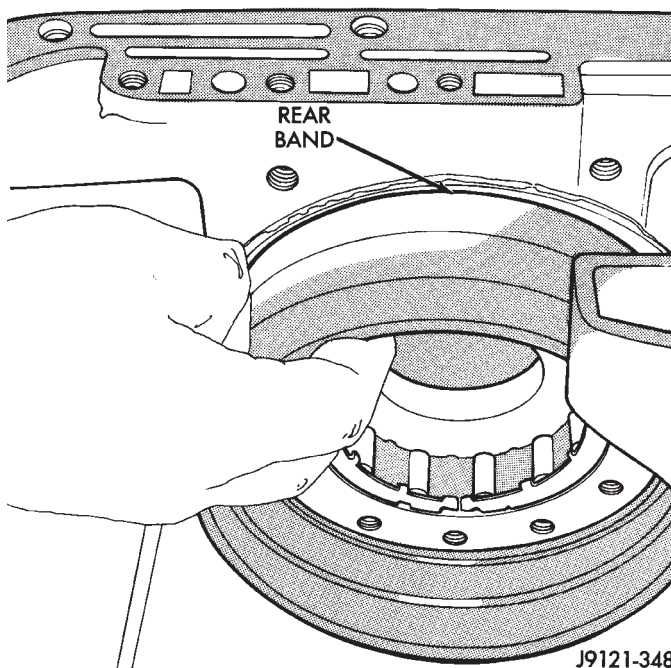

Fig. 160 Rear Band Installation
(11) Install rear band in case (Fig. 160). Be sure twin lugs on band are seated against reaction pin.
(12) Install low-reverse drum and check overrunning clutch operation as follows: